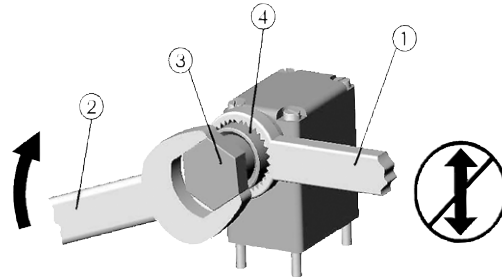

Fig. 1: Torque
**Assembly instructions: (Fig. 1 : Torque)**